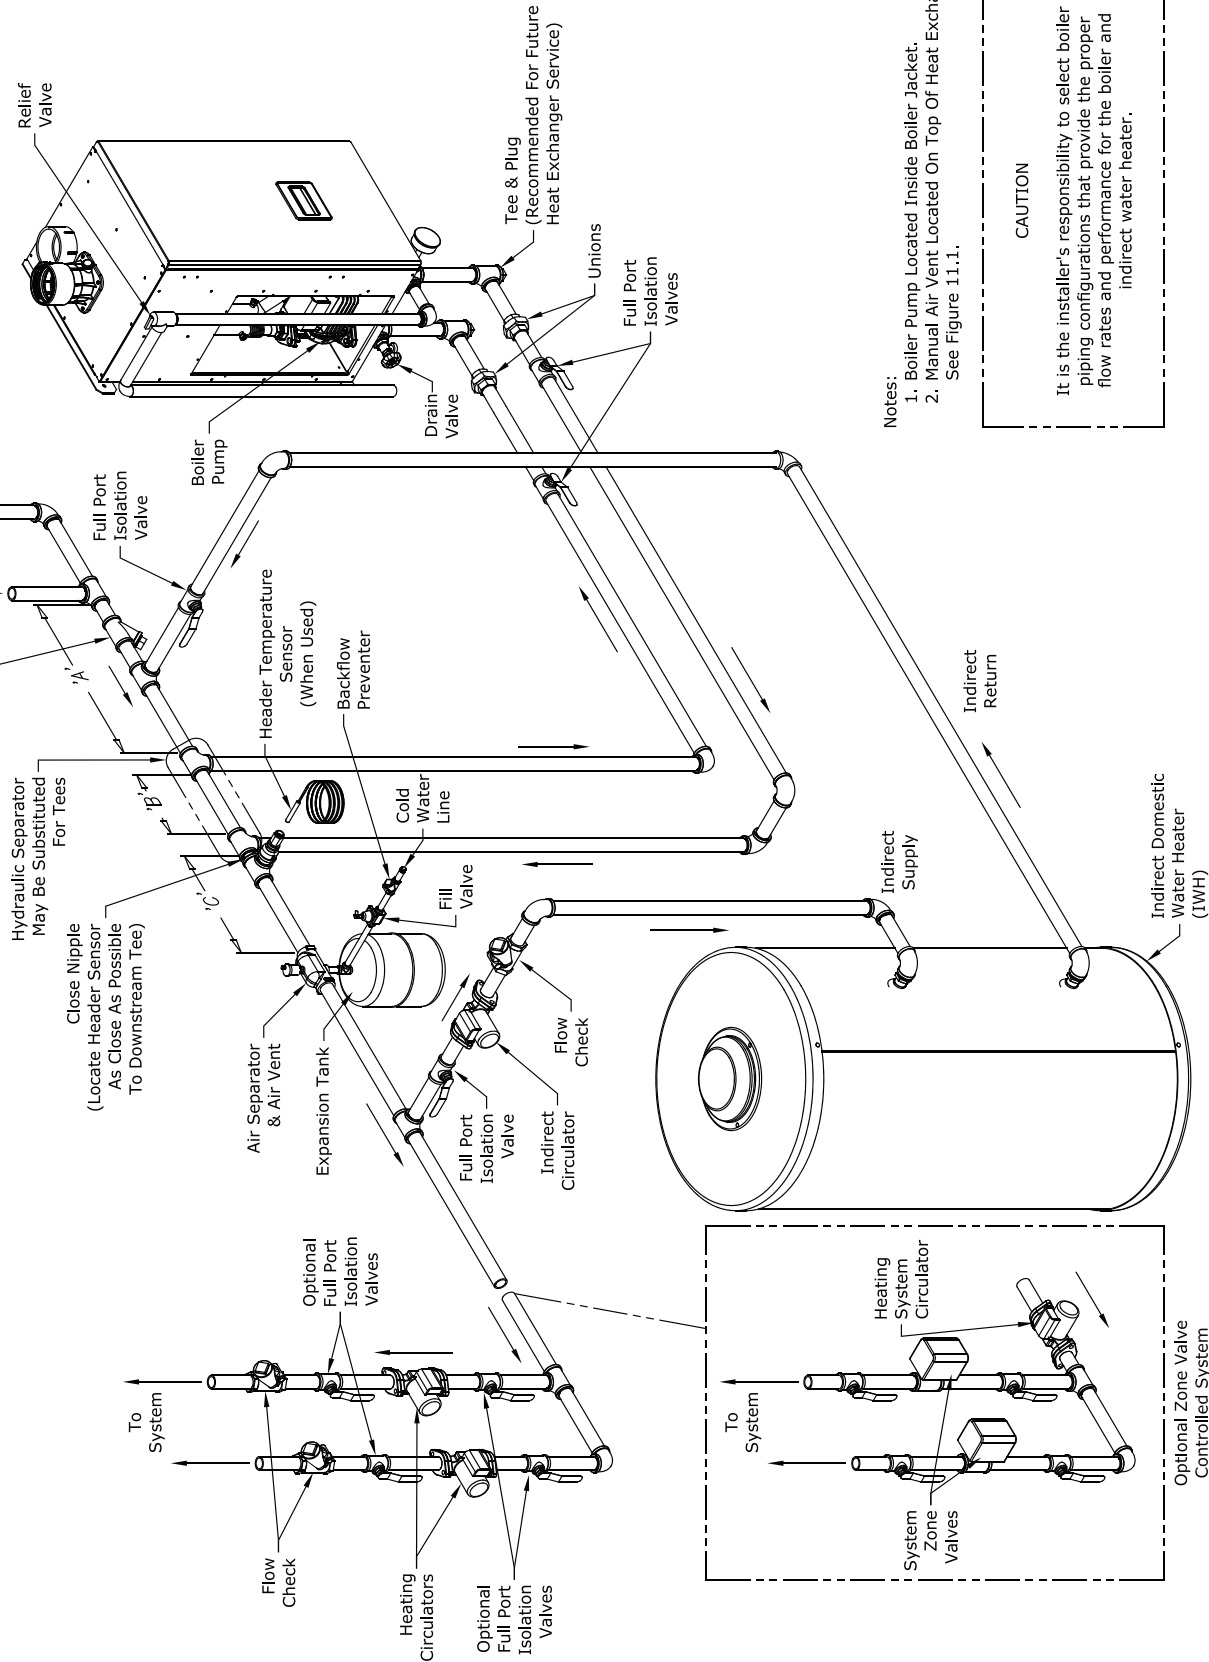

Figure 9.3a: Piping Method #1 - Near Boiler Piping - Heating Plus Indirect Water Heater
This method can be used in heat-only applications as shown in Figures 9.2 and 9.2a or with an indirect water heater as shown in Figure 9.3a or 9.3b. In this system, the flow rate through the boiler ("secondary loop") is completely independent of the flow rate through the system ("primary loop"). Use the following guidelines to ensure that the boiler will have the required flow shown in Table 9.1 regardless of the flow in the heating system.
3) Indirect Water Heater Loop Piping – If an indirect water heater is used, install it as shown in Figure 9.3a or 9.3b. Refer to the indirect water heater installation manual for the proper sizing the indirect water heater loop pump and piping.